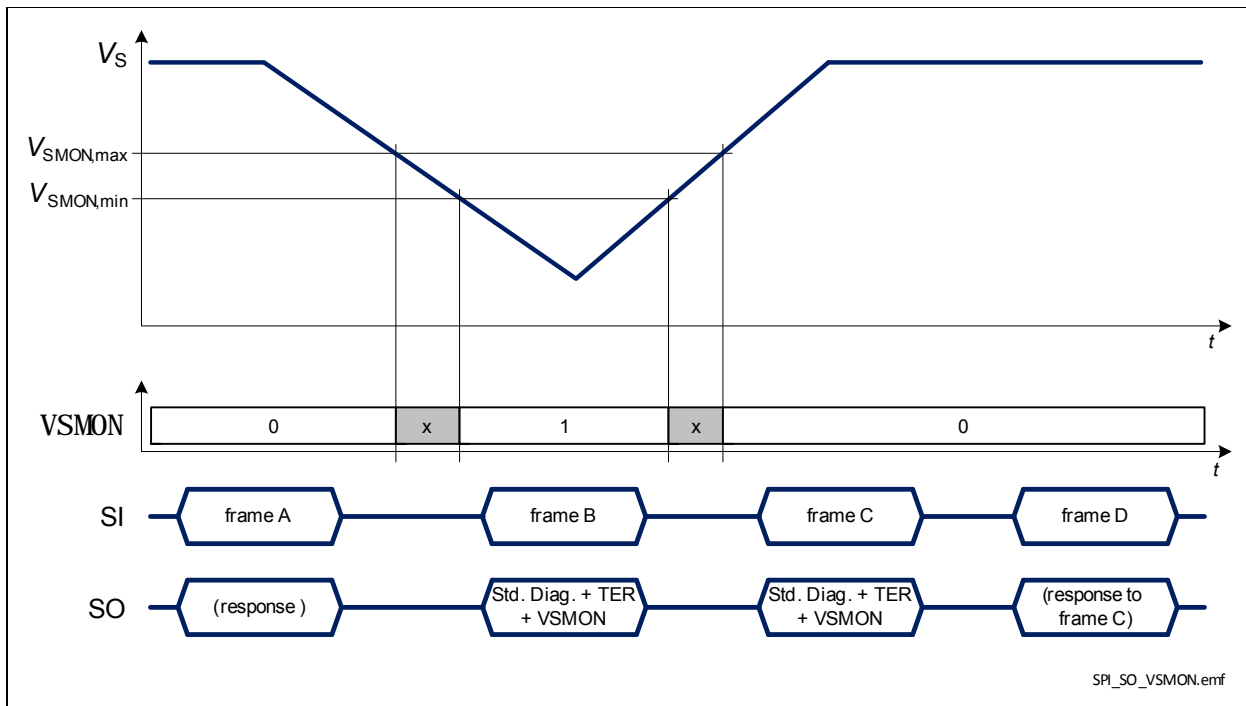

Figure 34 BTS54220-LBE response in case of a negative battery voltage transient
- when $V_S < V_{SMON}$ and **DCR. MUX** $\neq 111_B$, as shown in Figure 34